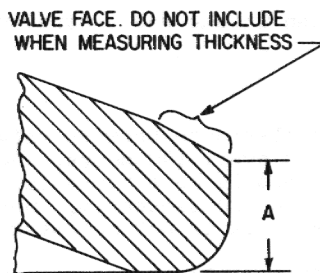

Figure 2. Valve Showing Locations for Checking Runout and Section for Measuring Edge Thickness
c. After refacing, check runout of valve face. See figure 2. Total runout must not exceed .0015 inch. Do not reuse any valves that exceed this limit.
d. Measure edge thickness of intake valve heads. See figure 2. If, after refacing, "A" is less than the limit shown in the following chart, the valve must not be reused.